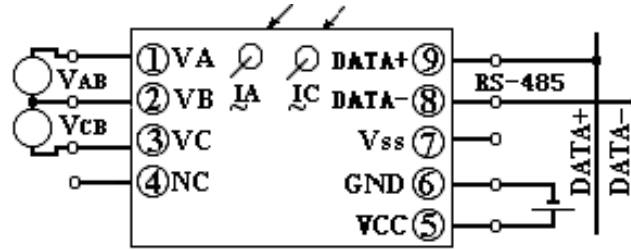

Figure 6.2 3-phases 3 wire CE-AJ32-\*\*BS3 wiring diagram (Vss is the ground of RS485 output)
6.2 Three-phase three-wire (two-table method) Double isolation S3-type product wiring Refer to Figure 6.2.